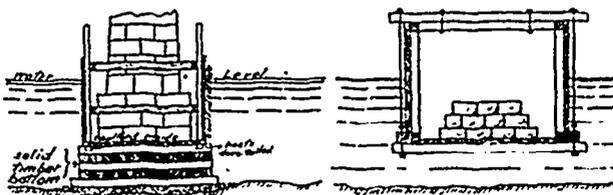
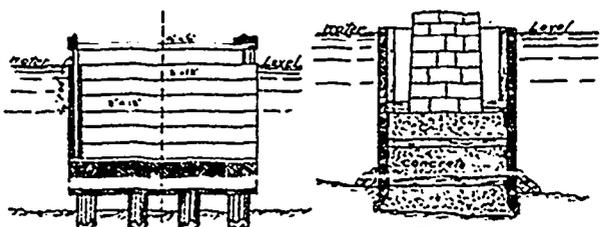

Fig. 69. Floating Cofferdams on good bottoms.
Fig. 70. Floating Cofferdam on piles.
*Floating Cofferdams with Solid Timber Bottoms*—It is moderately certain that as long as timber is covered with running fresh water it will never decay, and it is even contended that in any fresh water it is practically safe also; this has led to the adoption of methods of foundation building which do not involve the unwatering of the bottom. If the bottom is bare and moderately level, or can be dredged to a good bottom and levelled up with broken stone, it is manifestly easy to build a watertight box with either a solid timber (Fig. 69) or stone-filled crib, or only a plank layer, as a bottom (Fig. 69), and, after floating it into position, sink it, by building in it or by external loading, and after the structure has been built up above water level tear off the sides of the watertight box, leaving the bottom as a permanent part of the structure. If, on the other hand, the foundation is soft and good bottom can be reached by piling, the piles are driven to a firm bearing, sawed off under water close to the bed of the river, and the same operation as just described is gone through, the structure being landed on top of the piles as a foundation, as in Fig. 70. These methods are cheap and satisfactory in situations where the current is not excessive, but in very swift currents such constructions are not as manageable as the bottomless cofferdams to be described, and even where used, it is